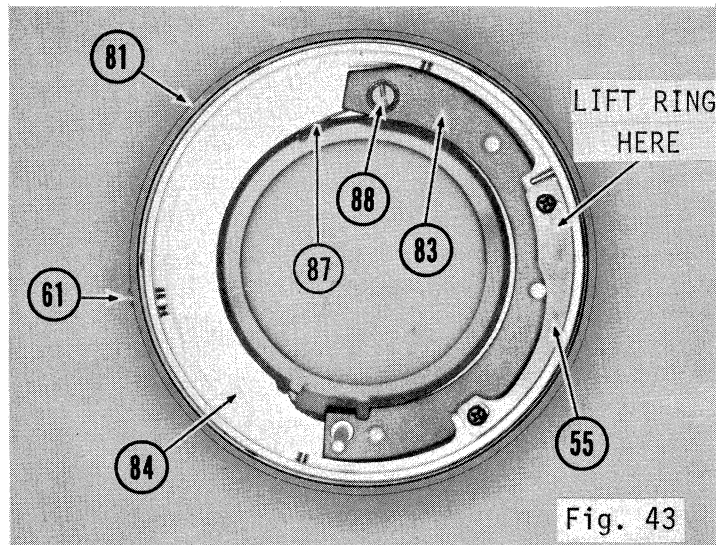

Fig. 43
- 5.3.1.8 Remove Auto Diaphragm Cam Ring (55) with Diaphragm Screw (61) by lifting Cam Ring at point shown in Fig. 43.
- 5.3.1.9 Unhook Diaphragm Lever Spring (87) from edge of hole in Nikon Mount (84). (Fig. 43)
- 5.3.1.10 Remove Diaphragm Lever Screw (88). Diaphragm Lever (83) and Diaphragm Lever Spring (87) will come away. (Fig. 43)